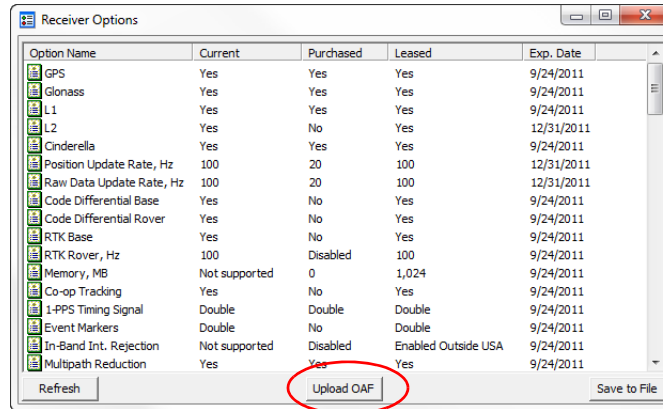

Figure 19: Receiver Options
3. Click the **Options**  icon in the main window. The **Receiver Options** window (Figure 19) displays, so you can view the current authorization options and upload new ones.
2. Click **Upload OAF** on the bottom of the **Receiver Options** window (see Figure 19).